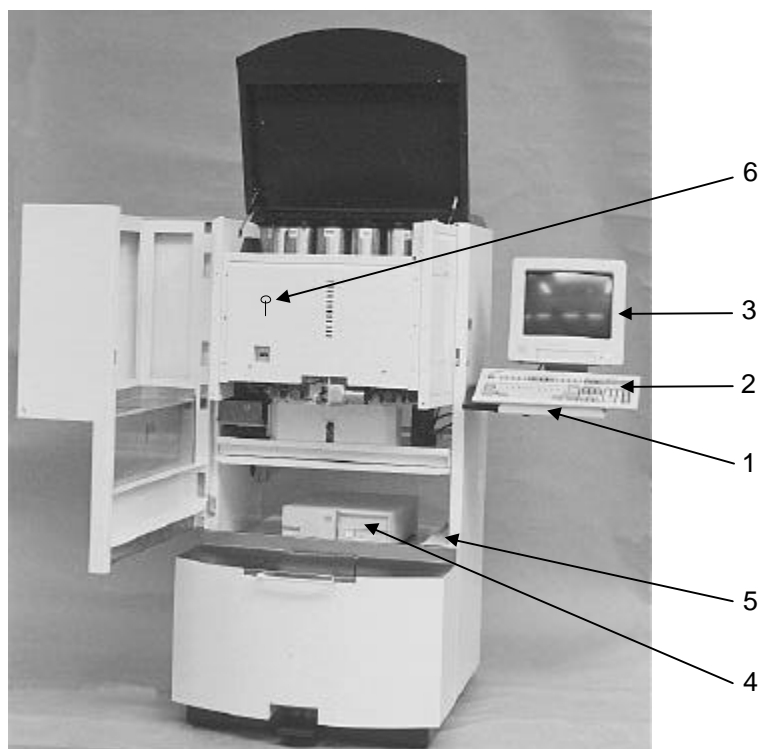

figure 5
- Mount the stand on the right side of the machine using the four fixing bolts, see figure 5, number 1).
4.3.3 Installing the computer system (see figure 5)
1. Position the keyboard (number 2), the monitor (number 3) and the computer (number 4) as shown in figure 5.
6. Plug the computer and monitor plugs into the internal socket (see figure 5, number 5) and press in their on/off switches.
9. Place the triangular key in the special clamp on the inside of the machine (see figure 5, number 6).